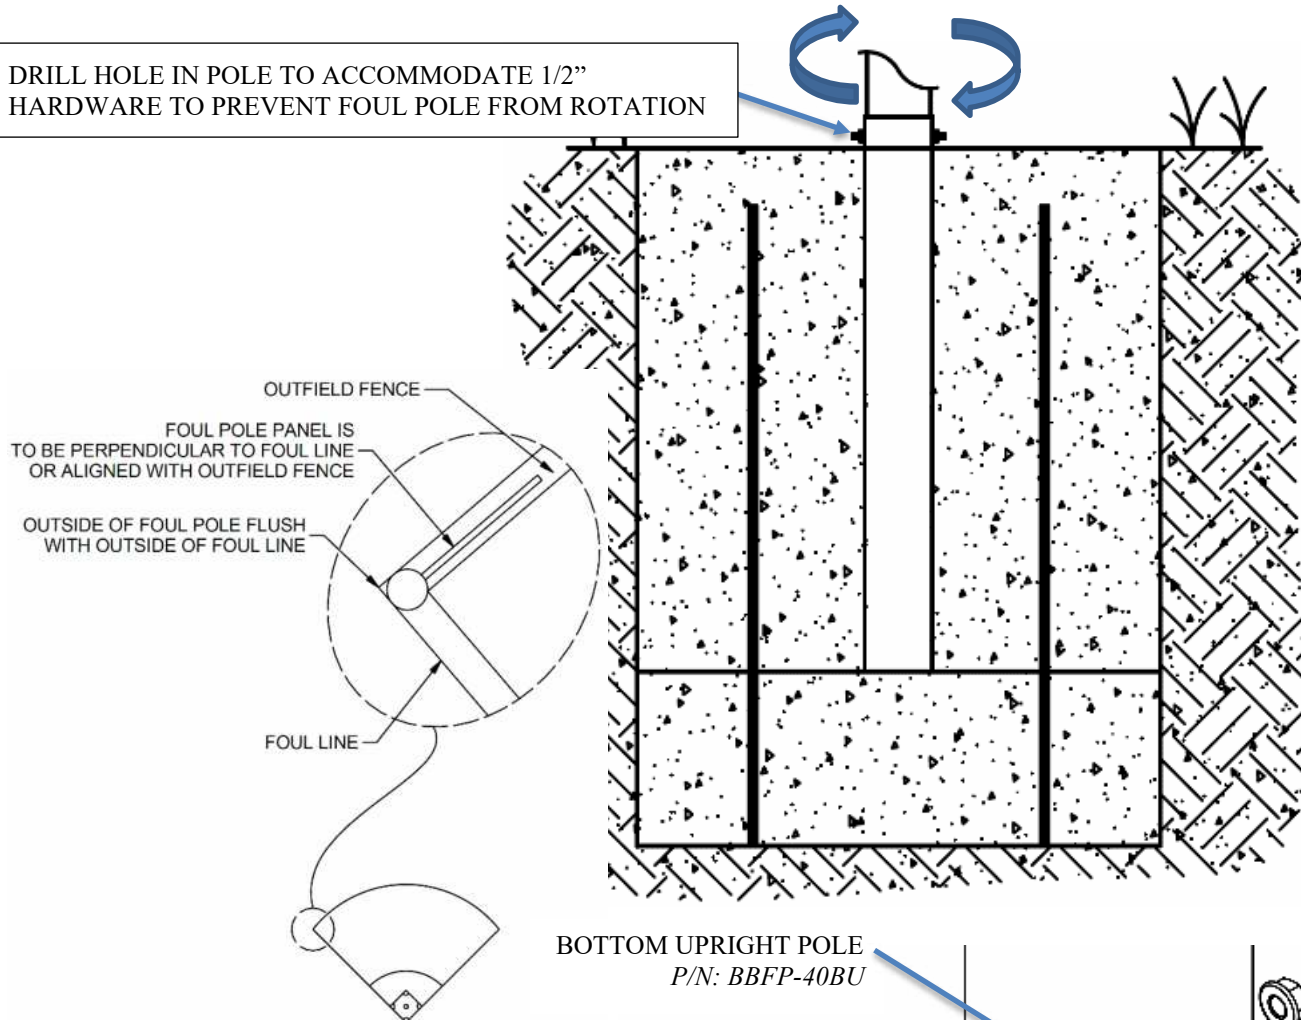

FIGURE: 1
1. Rotate the assembled foul pole to align the wing panel to the foul line in accordance with Figure 1.